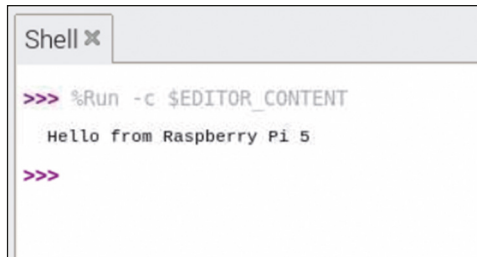

Figure 2.14: Run the program.
- Click the **Run** icon (green menu button at the top) to run the program. The output of the program will be displayed at the bottom of the screen as shown in Figure 2.14.